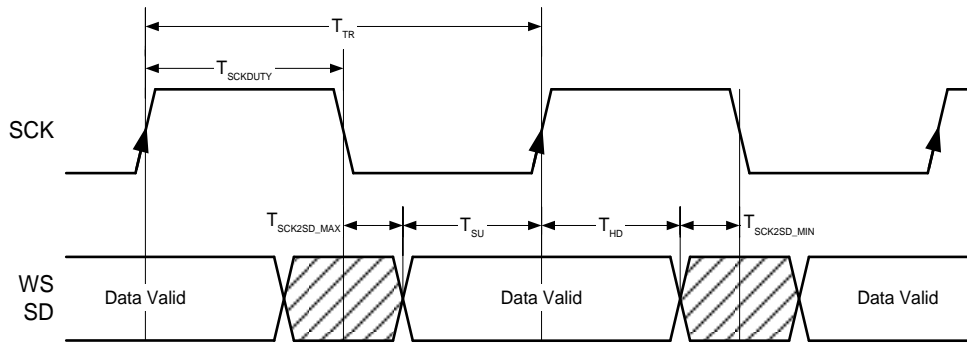

Figure 6.6. I²S Output Timings
1. Refer to Figure 6.6 on page 30. Meets timings in Philips I2S Specification.
Valid serial data is available at  $T_{\text{sck2sd}}$  after the falling edge of the first SCK cycle, and then captured downstream using the active rising edge of SCK one clock period later. The setup time of data to SCK ( $T_{\text{SU}}$ ) and hold time of SCK to data ( $T_{\text{HD}}$ ) are therefore a function of the worst case SCK-to-output data delay ( $T_{\text{sck2sd}}$ ). Figure 6.6 on page 30 illustrates this timing relationship. Note that the active SCK edge (rising edge) is shown with an arrowhead. For a falling edge sampling clock, the logic is reversed.